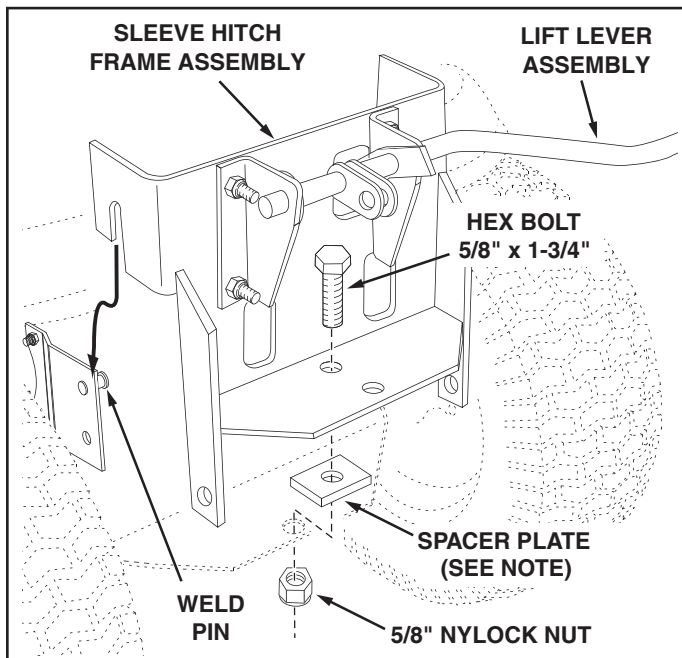

FIGURE 4
- Hook the Sleeve Hitch Frame Assembly onto the weld pins in the mounting brackets. Attach the bottom of the Assembly to the tractor hitch using a 5/8" x 1-3/4" hex bolt and a 5/8" nylock nut. See figure 4.